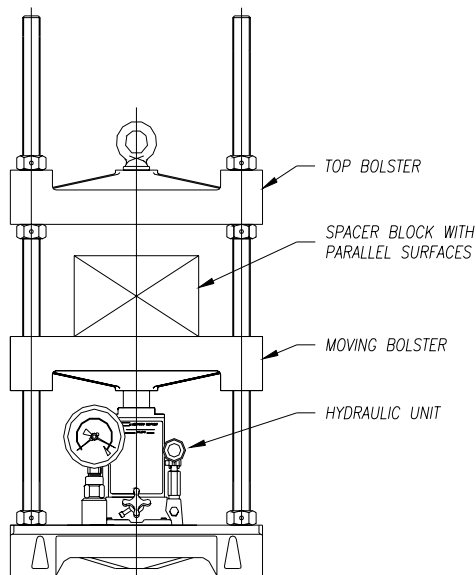
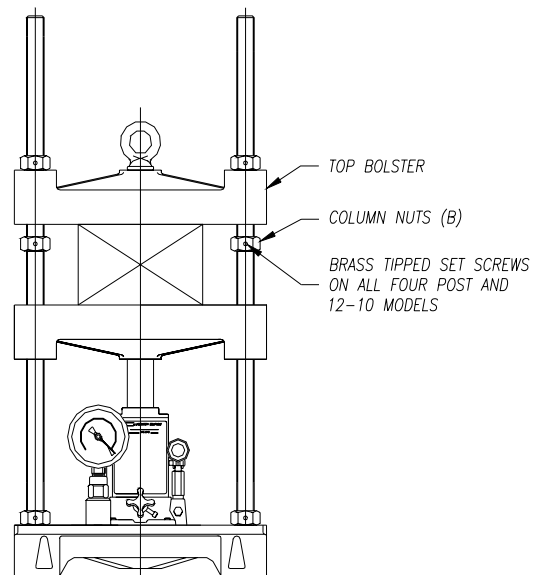
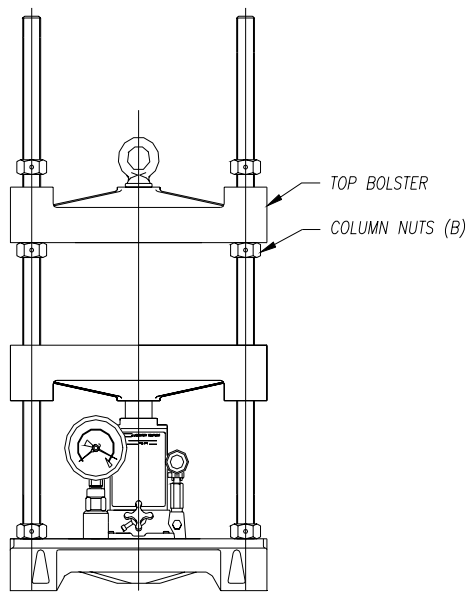

FIGURE 4-1
FIGURE 4-2
FIGURE 4-3
- Insert a spacer block with parallel surfaces between the moving bolster and top bolster (spacer must be tall enough to build force on the spacer), pump the hydraulic unit to build force to the maximum capacity of the press. (FIG 4-1)
- With the press at maximum applied force, loosen the column nuts (B) located directly below the top bolster. (FIG 4-2) On Four Post and Model 12-10 presses, a brass tipped set screw must be loosened on each nut before nuts are loosened.
3. Release hydraulic force and remove the spacer, allowing the top bolster to rest on the lower column nuts (B) (FIG 4-3).
1. Insert a spacer block with parallel surfaces between the moving bolster and top bolster (spacer must be tall enough to build force on the spacer) (FIG 4-1), pump the hydraulic unit to build force to the maximum capacity of the press (FIG 4-2).
2. With the press at maximum applied force, loosen the column nuts (B) located directly below the top bolster. Move these column nuts (B) to the position required creating the desired daylight. On Four Post and model 12-10 presses, a brass tipped set screw must be loosened on each nut before nuts are loosened.
3. Release hydraulic force and remove the spacer allowing the top bolster to rest on the lower column nuts (B) (FIG 4-3).
4. Tighten the upper column nuts (A) finger tight against the top surface of the top bolster.